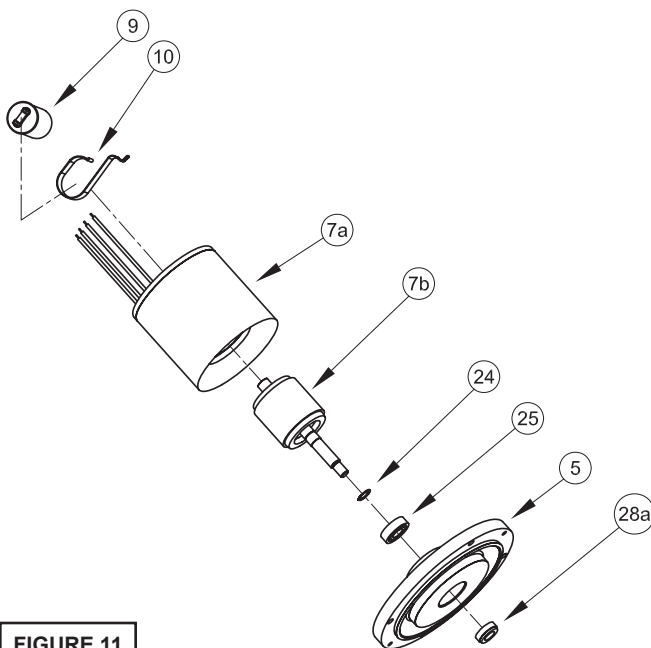

FIGURE 11
Repeat cord and terminal block removal procedure for any control cords (56) if equipped. Remove socket head screws (47). Vertically lift the motor housing (6) from seal plate (5) by lifting handle (13). Inspect square ring (27) for damage or cuts. Remove the motor bolts and lift motor stator from seal plate (5). Disconnect capacitor leads from capacitor (9, single phase units). Examine bearing (25) and replace if required. If replacement is required, remove bearing (25) from motor shaft using a wheel puller or arbor press, see Figure 11